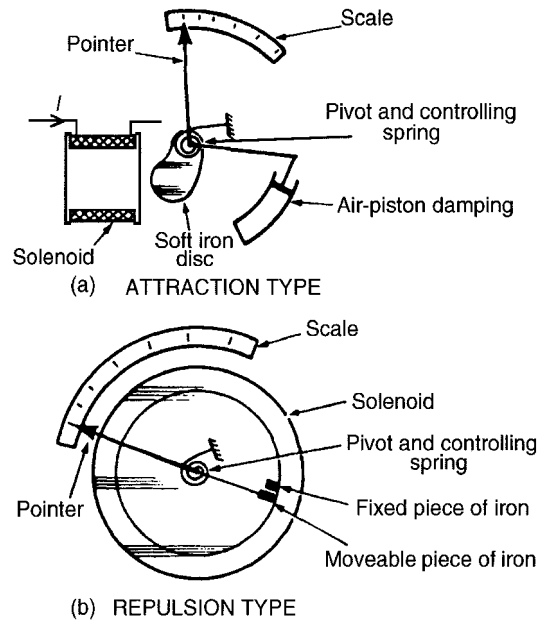

Figure 10.2
- An **attraction type** of moving-iron instrument is shown diagrammatically in Fig. 10.2(a). When
- In the **repulsion type** moving-iron instrument shown diagrammatically in Fig. 10.2(b), two pieces of iron are placed inside the solenoid, one being fixed, and the other attached to the spindle carrying the pointer. When current passes through the solenoid, the two pieces of iron are magnetized in the same direction and therefore repel each other. The pointer thus moves across the scale. The force moving the pointer is, in each type, proportional to I^2 and because of this the direction of current does not matter. The moving-iron instrument can be used on d.c. or a.c.; the scale, however, is non-linear.